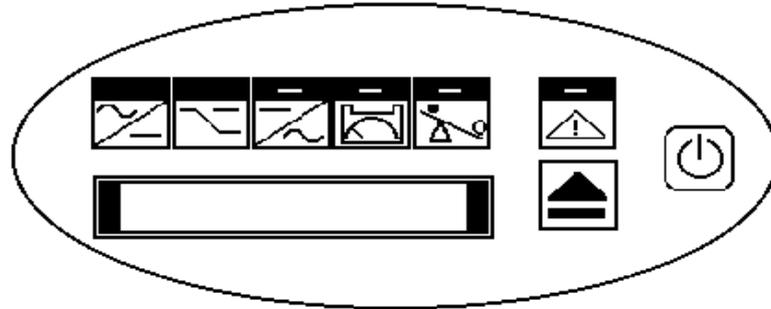

Fig14
- a. Turn on the “NO fuse breaker” with back panel, front panel indicator and bypass indicator at times are lightness. Refer to Fig14。 (panel 1)